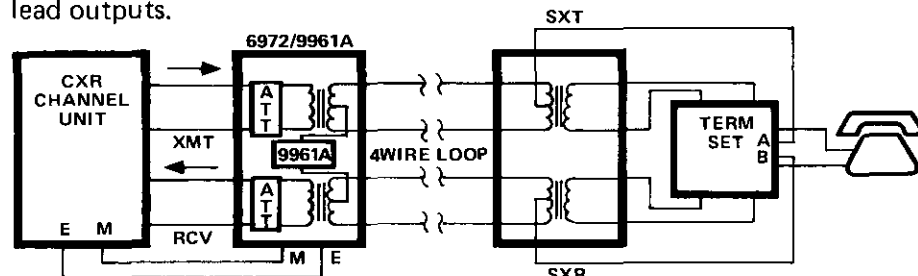

figure 2. Typical application of 6972 equipped with 9961A
2.04 The 9961A Signaling Converter FXS (foreign exchange, station) subassembly, when mounted on the 6972 module, provides conversion between E and M signaling and loop signaling conventionally used at the station end of a foreign-exchange circuit (figure 2). Specifically, the 9961A converts E-lead signals to ringing and tip-ground supervision toward the station, and also converts loop supervisory and dialing signals from the station to M-lead outputs.